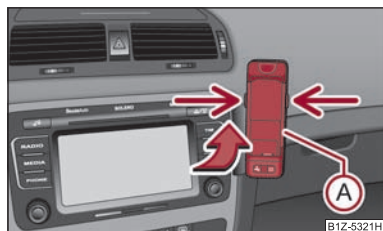

Fig. 124 Universal preparation for the mobile phone
- First of all push the adapter **A** in the direction of arrow ⇒ fig. 124 up to the stop into the mount. Press the adapter slightly downwards, until it locks securely into position.
- Press simultaneously the side locks of the mount ⇒ fig. 124 and remove the mobile phone and adapter.